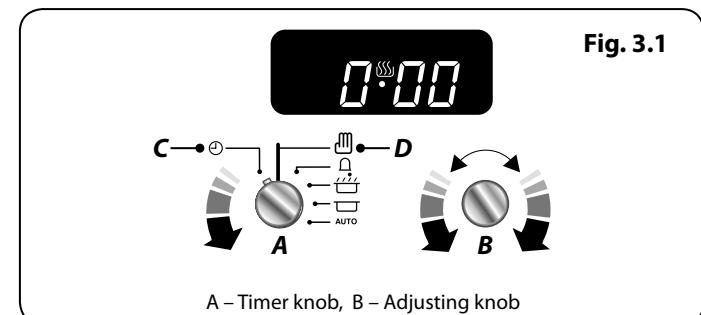

Fig. 3.1
- To set the time, turn the **Timer (A)** knob to the **Clock (C)** setting and back to the **Manual (D)** position. The centre dot will flash indicating the time can be set. Turn the **Adjusting (B)** knob either clockwise or counter-clockwise (**Fig. 3.1**) to set the time.